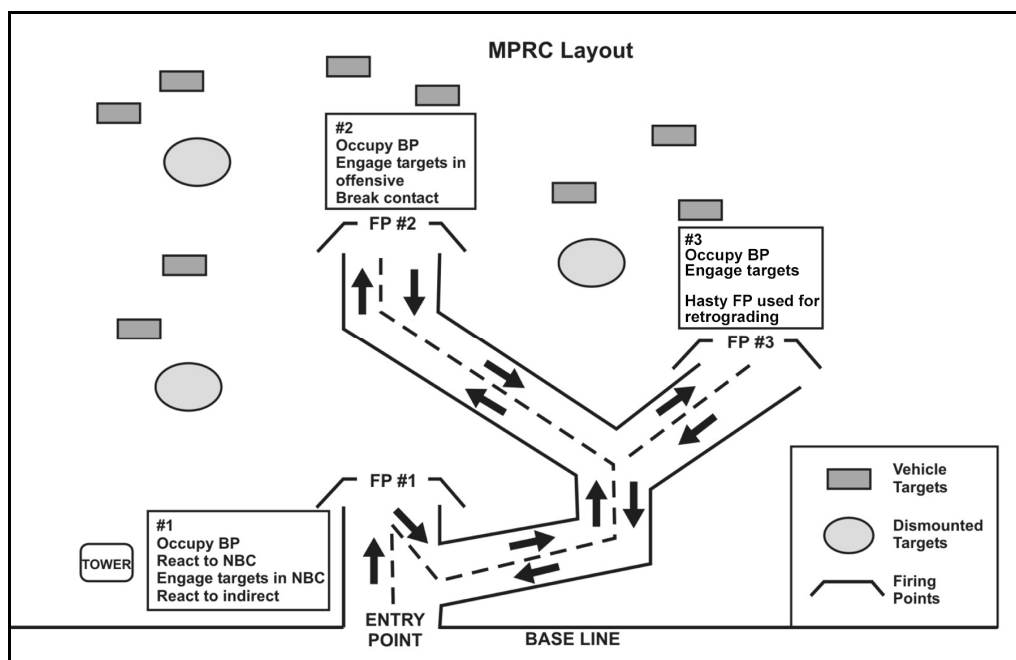

Figure J-3. Firing exercise scenario example.
a. **Trainer/ evaluator guidelines.** The firing exercise should be conducted on a multipurpose range complex (MPRC)/MK 19 range. Marking the firing positions may be necessary. At night, roads must be marked with luminous tape or chem lights. The crew develops teamwork while in an offensive and defensive posture. Figure J-3 shows an example of a firing exercise scenario.